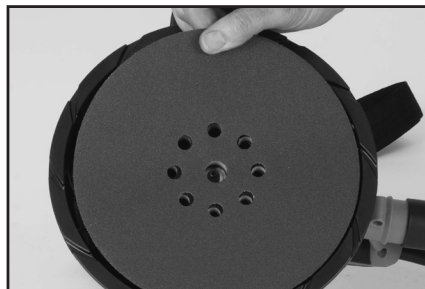

Fig. 4
- Be careful to ensure that the nine (9) holes in the abrasive sanding disc line up perfectly with the nine (9) holes in the Backing Pad. **(Fig. 4)**